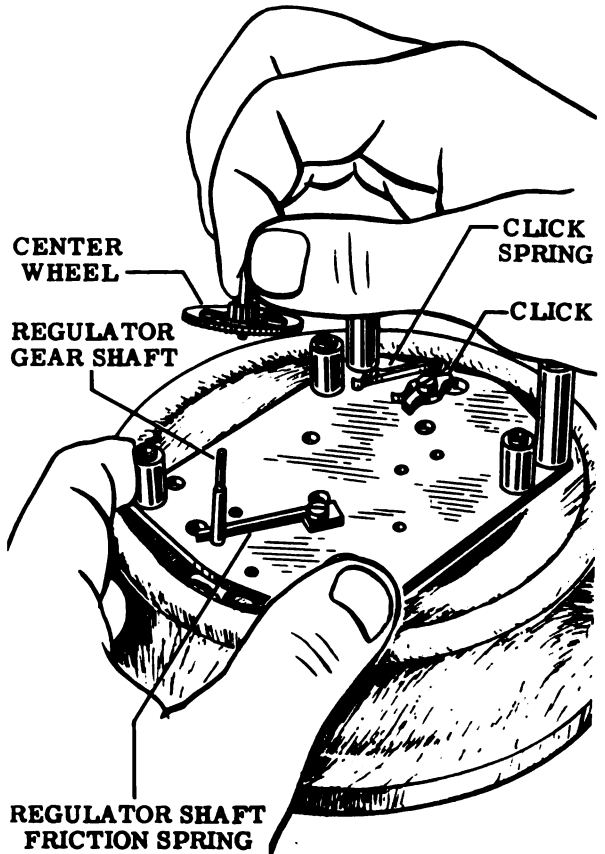

Figure 61
15. For purposes of cleaning, no further disassembly is required. The various pillars attached to the front plate need not be disassembled. The click, click spring and regulator gear remain attached unless there is obvious need for them to be replaced. See Fig. 61.